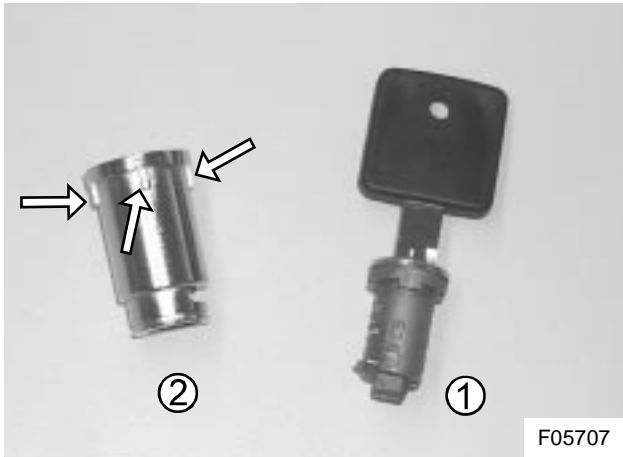

Figure 6: Tumbler and key (1) and tumbler insert (2). Note three offset cams.
- 1) Push the new tumbler insert into the lock assembly until a clicking sound is heard. Make sure that the insert is positioned correctly and that the offset locating cams match the three slots in the housing (see Figures 6 and 7).